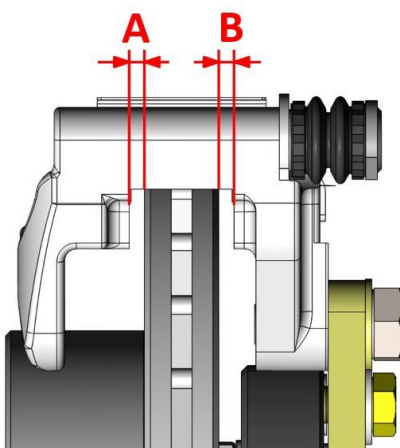

Figure 6a – Caliper Anchor Bracket Measuring Location
- Depending on original manufacturing tolerances, shimming of the Caliper Anchor Bracket may be required. To determine if shimming is necessary, measure between the Caliper Anchor Bracket and the brake rotor at both the outside and inside surface. See Figure 6a below for the measuring locations. Both measurements should be within .010" of each other. If they are not, using Figure 6b below for an example, calculate the necessary shim thickness. Remove the four 3/8"-24 x 1.250" Grade 8 Hex Head Bolts and place the appropriate shims between the Primary Caliper Mounting Bracket and the Secondary Caliper Mounting Bracket. Figure 6c below shows the proper location of the shims. With the shims installed and the Caliper Anchor Bracket centered over the rotor, torque the 3/8"-24 x 1.250" Grade 8 Hex Head Bolts to 40 lb/ft.